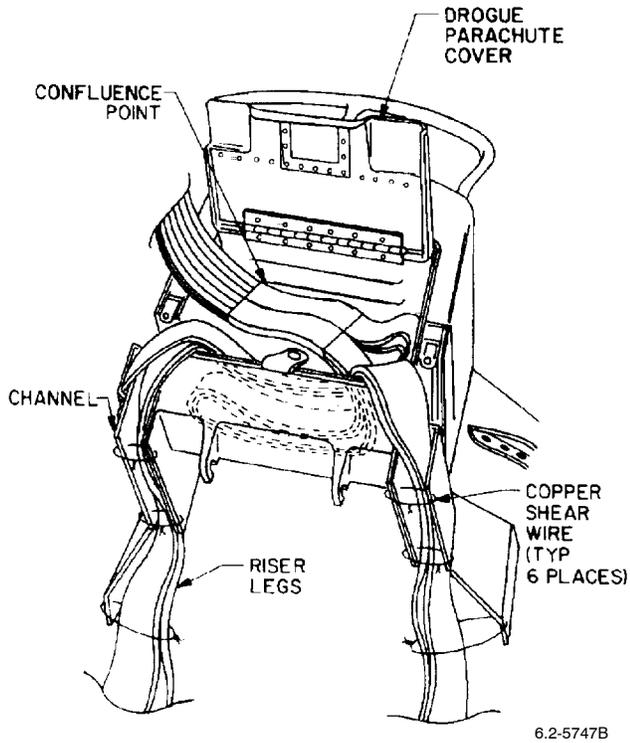

Figure 4. Safety-Wire Risers
e. Safety-wire risers and channels on all seats, using 0.020-in. copper wire (Figure 4). (QA)